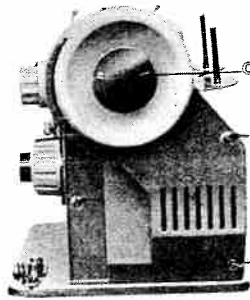

Fig. 62
- (2) Remove three screws holding rear cover (Fig. 62) by tipping it out at the bottom and pivoting around the hand wheel away from the front of the machine.
- (4) To remove "V" belt:
- (A) Remove top cover.
- (B) Loosen clutch C, Fig. 62.